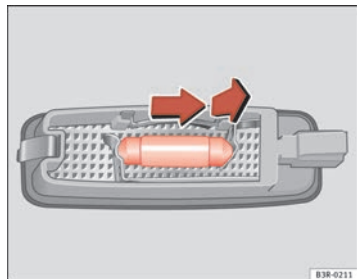

Fig. 229 Removing sun visor light
- Remove the bulb, moving it in the direction of the arrow and outwards ⇒ fig. 229. ■